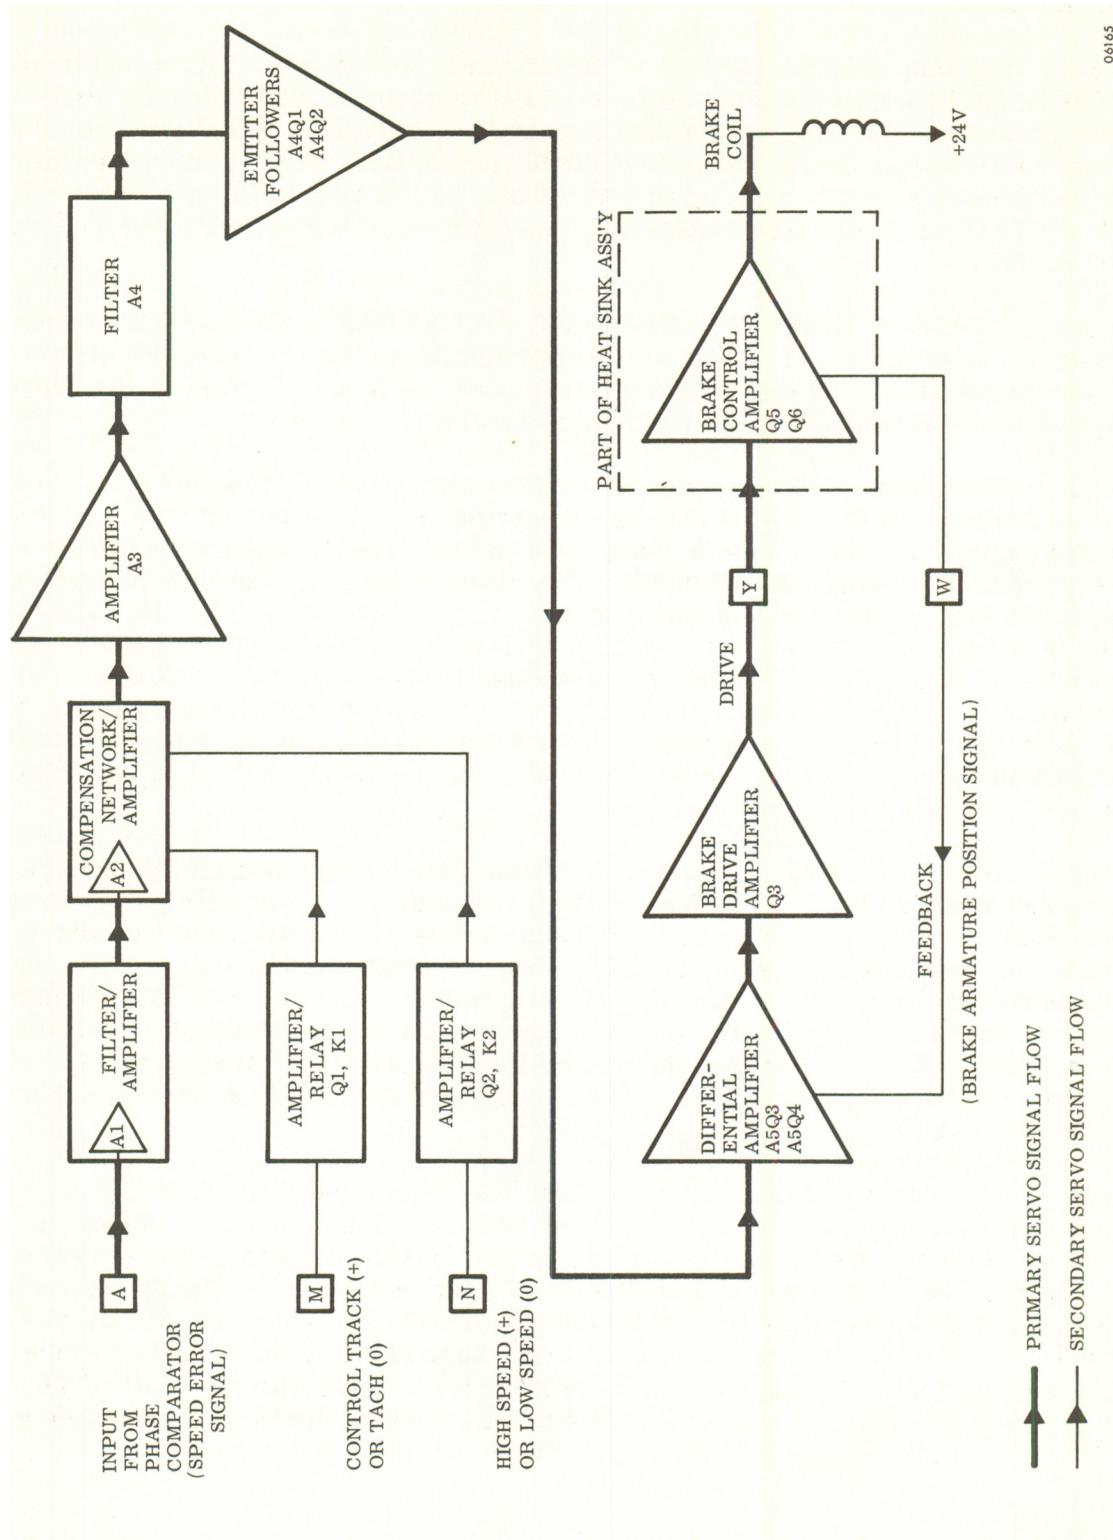

Figure 4.2-8. Capstan Servo Compensation and Brake Amplifier Block Diagram
4.2-33 CAPSTAN SERVO COMPENSATION AND BRAKE AMPLIFIER (Schematic Number 1241345). The function of the capstan servo compensation and brake amplifier is to control the electromechanical brake of the capstan motor. A block diagram of the capstan servo compensation and brake amplifier circuits appears in Figure 4.2-8.